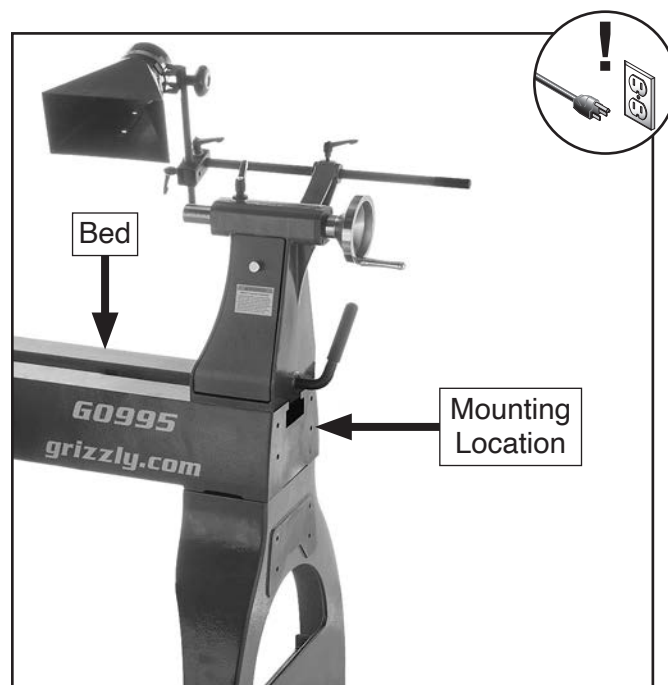

Figure 76. Bed extension mounting location.
2. Hand thread (4) M10-1.5 x 30 cap screws halfway in mounting holes on right end of bed (see **Figure 76**).